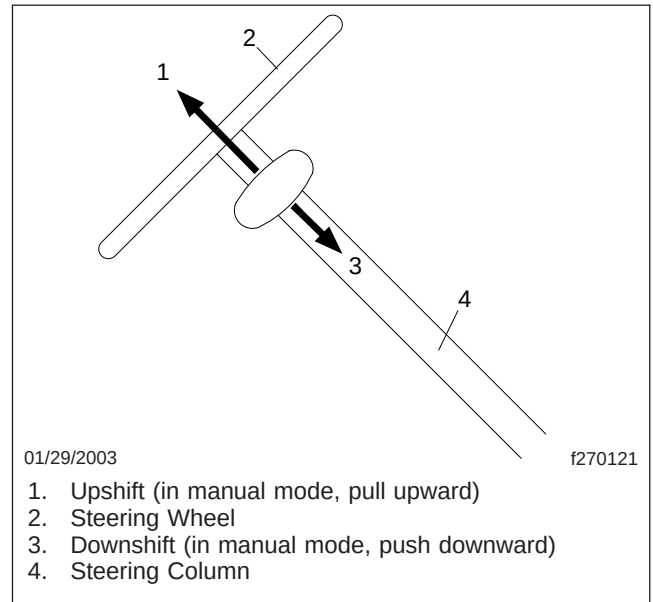

Fig. 2, SmartShift Control Operation
Manual gear shifts are accomplished by a momentary pull or push on the control. Pull upward (toward you) on the control to upshift, and push downward (away from you) to downshift. See Fig. 2. The control is spring-loaded and returns to mid-position when released after an upshift or downshift. All shifts into reverse (R) are done manually.